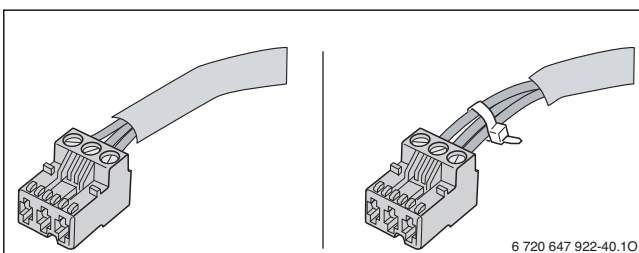

Fig. 9 Secure together the wires of every cable connected.
- ▶ Secure together the wires of every cable connected. This can be done by stripping a short section of cable sheath or with cable ties close to the terminals (→ fig. 9).